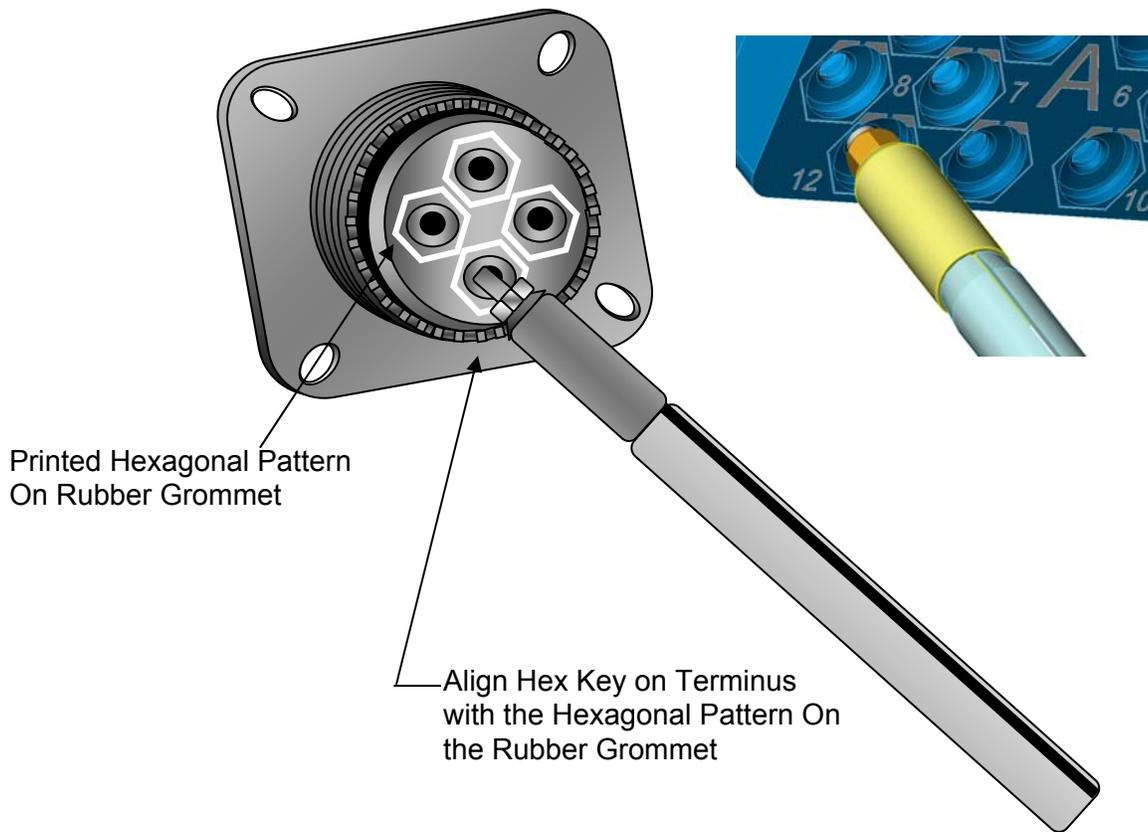

Figure 7-46 – Inserting Terminus While Aligning the Terminus Hex Key with the Printed Hexagonal Pattern on the Rubber Grommet
Step 2 - Place the terminus in the proper cavity in the rear of the connector insert while aligning the hexagonal key on the terminus with the printed hexagonal pattern on the rubber grommet. Apply pressure with the insertion tool until the terminus snaps into place See Figure 7-46.